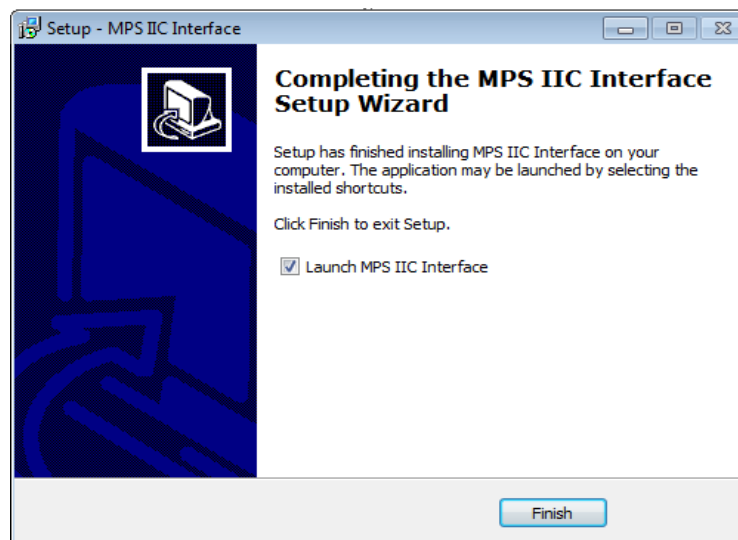

Figure 5: MPS I²C GUI Set-Up Success
5. Wait for the status screen to verify that the installation is complete (see Figure 5).